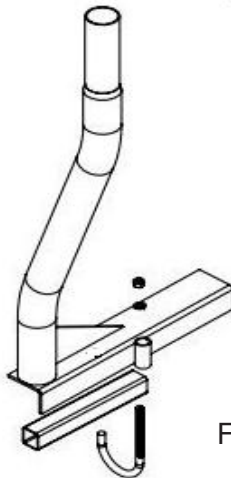

Figure2
Put the left support tube(3) onto the rail of the truck bed by 1pcs J type bolt (7)and bottom support square pipe (10) , M10 washer(8), M10 lock nut(9), repeat the above step for another one and the two right cross bar(2). And the left support tube and the right support tube must on the same line,finally tighten the nut.Show as figure 2